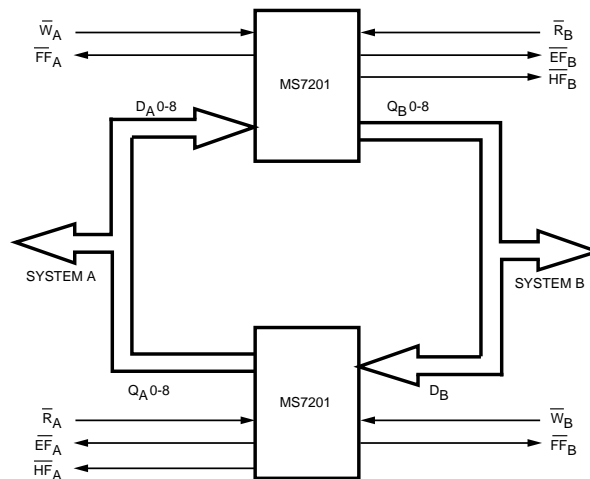

Figure 6. BiDirectional FIFO Mode
Data buffering between two systems can be achieved by pairing two FIFO arrays as shown in Figure 6. This allows each system to READ and WRITE shared data. The FULL FLAG (FF) must be monitored on the FIFO where WRITE ENABLE ( $\bar{W}$ ) is used and the EMPTY FLAG ( $\bar{E}$ ) must be monitored on the FIFO where READ ENABLE ( $\bar{R}$ ) is used. Both Width Expansion and Depth Expansion